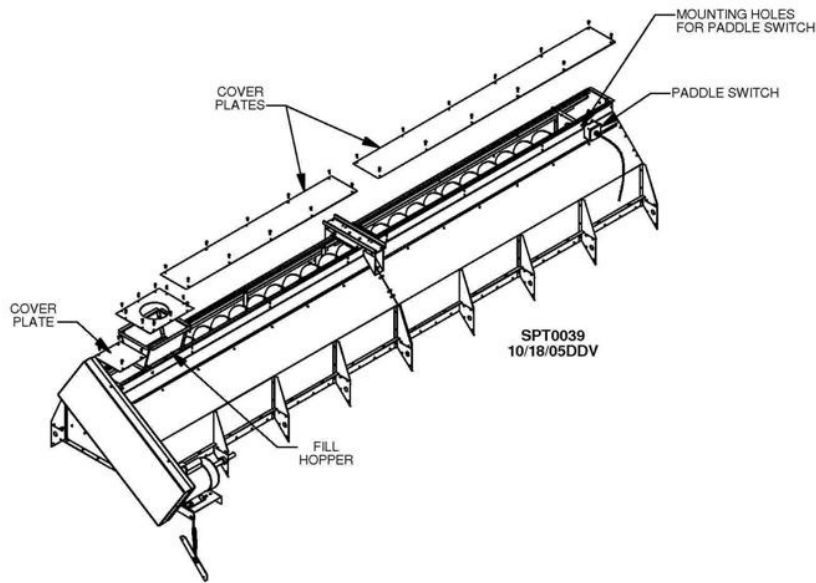
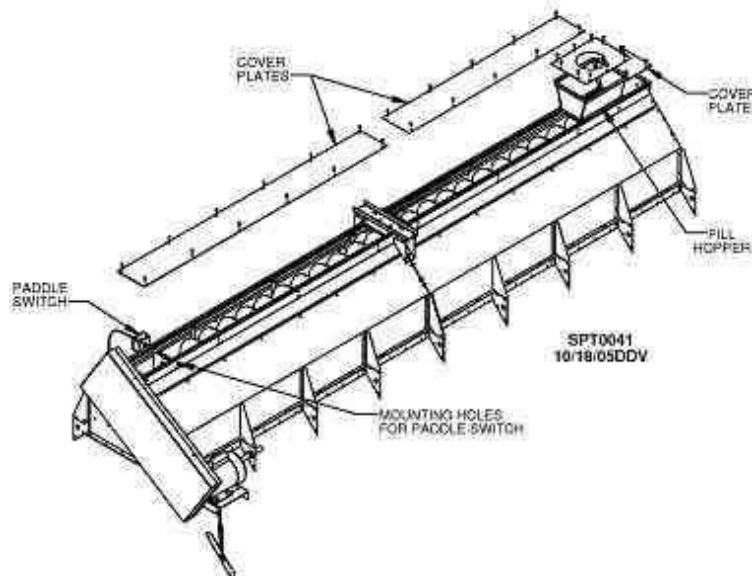

Fig. 2-12 – Fill hopper installation (Front fill)
Fig. 2-13 – Fill hopper installation (Rear fill)
5. Bolt top fill hopper to top of wet bin on filling end of dryer. Place cover plates on top and attach with 1/4 x 1" self-drill screws. See Fig. 2-12 for front-fill and Fig. 2-13 for rear-fill dryers (16' dryer is shown in Figs. 2-12 and 2-13).